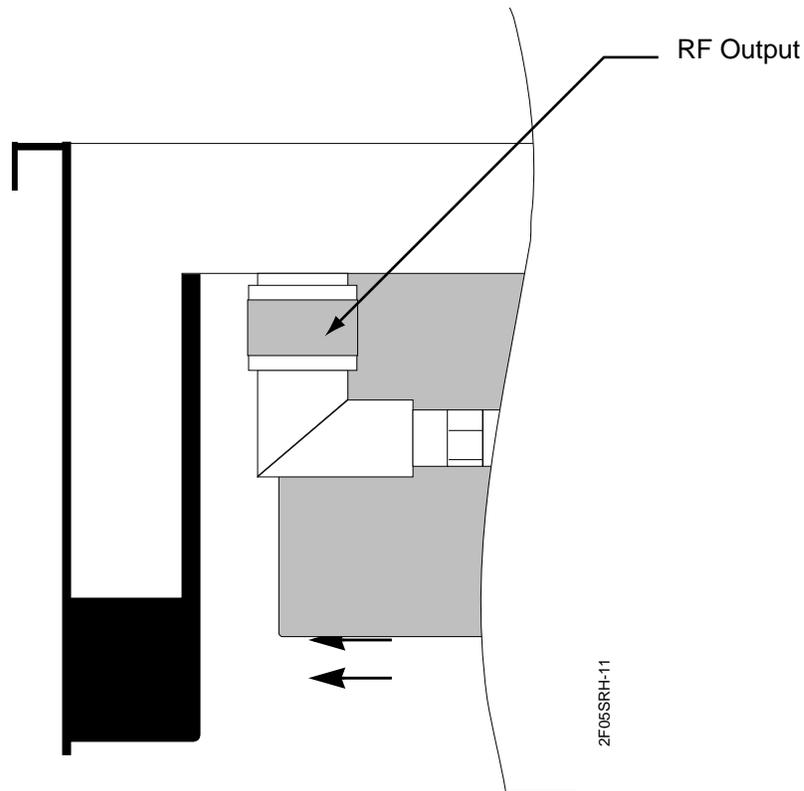

Figure 4-9: Pulling the PA from the Chassis
- e. Pull the PA out from the chassis approximately 5 in. (see Figure 4-9).